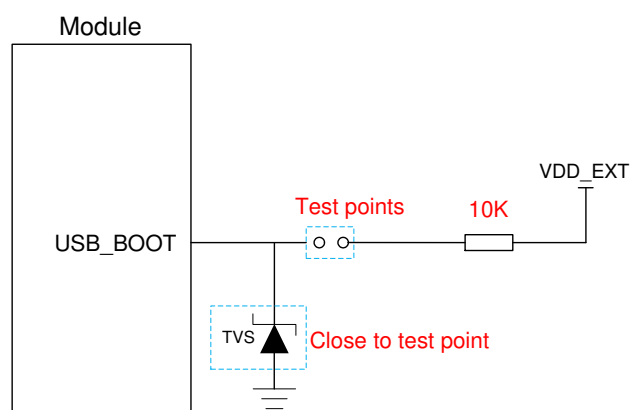

Figure 25: Reference Design of USB_BOOT Interface
3. When using MCU to control the module entering emergency download mode, follow the above timing. Connecting the test points as shown in Figure 25 can manually force the module to enter download mode.